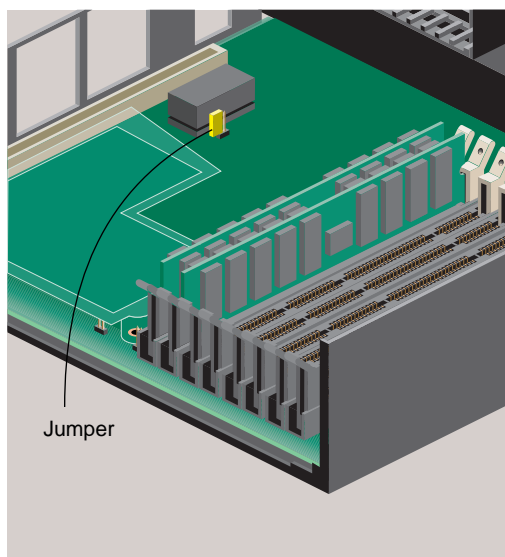

Figure 4-10 Removing the Jumper
5. Remove the jumper from the system board in the location shown in Figure 4-10.